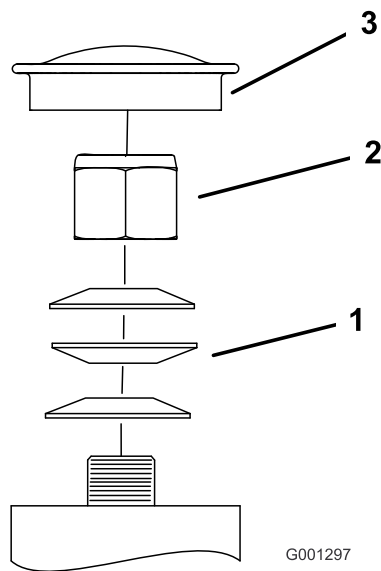

Figure 62
3. Remove the dust cap from caster and tighten the locknut (Figure 62).
4. Tighten the locknut until the spring washers are flat and then back off a 1/4 turn to properly set the pre-load on the bearings (Figure 62).
Important: Make sure the spring washers are installed correctly as shown in Figure 62.
5. Install the dust cap (Figure 62).